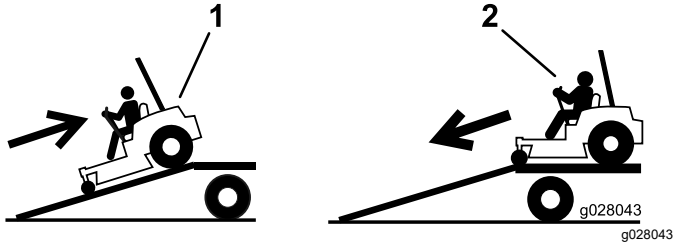

Figure 40
4. Back the machine up the ramp (Figure 40).
2. Drive the machine forward down the ramp (Figure 40).